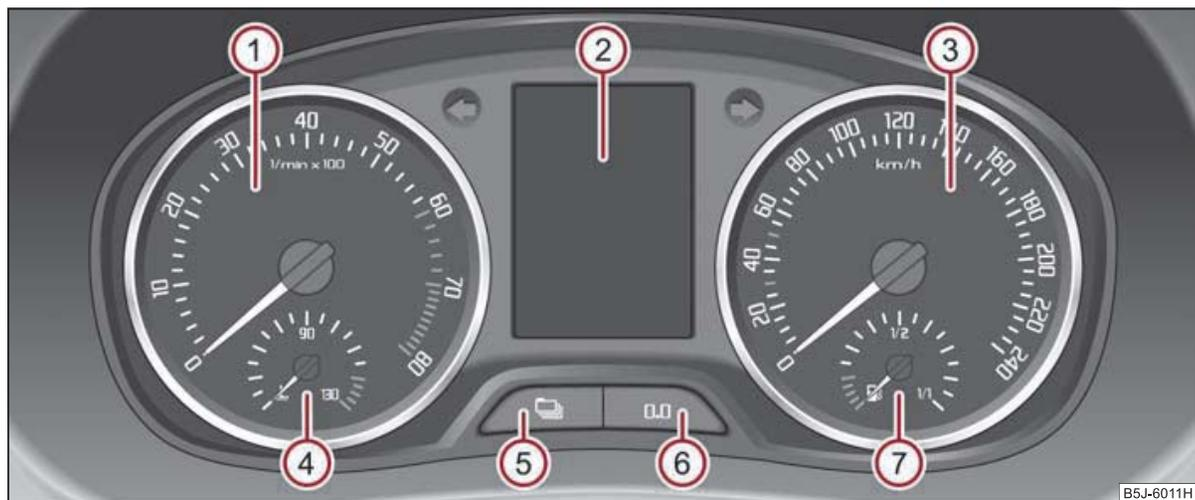

Fig. 15 Instrument cluster
The red zone of the rev counter scale ① ⇒ fig. 15 indicates the range in which the engine control unit begins to limit the engine speed. The engine control unit restricts the engine speed to a steady limit value.
The coolant temperature gauge (4) ⇒ page 15, fig. 15 operates only when the ignition is switched on.
The fuel gauge (7) ⇒ page 15, fig. 15 only operates when the ignition is switched on.
If you hold the reset button (6) ⇒ page 15, fig. 15 pressed for about 1 second, the trip counter is set back to zero.
The time is set with the buttons ⑤ and ⑥ ⇒ page 15, fig. 15.